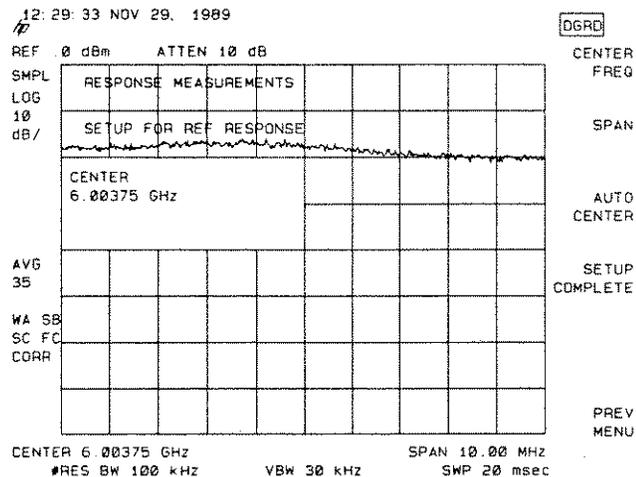

Figure 3-8. Example of Reference Response Display
2. After the reference response has been set on screen, press **SETUP COMPLETE**. See Figure 3-8.